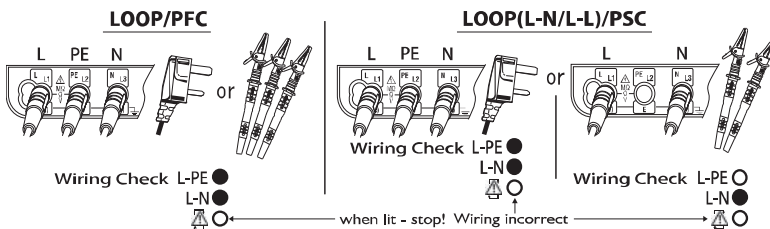

Fig. 31
(1) Press the Power button and turn on the instrument. Turn the Function switch and set it to either the LOOP or PSC/PFC position.
(2) Insert the Test Lead into the instrument. (Fig.31)
After the connection, ensure that the symbols for Wiring check on the LCD are in the status indicated in Fig.31 before pressing the test button.
If the status of the symbols for Wiring check differ from Fig.31 or   symbol is indicated on the LCD, DO NOT PROCEED AS THERE IS INCORRECT WIRING. The cause of the fault must be investigated and rectified.